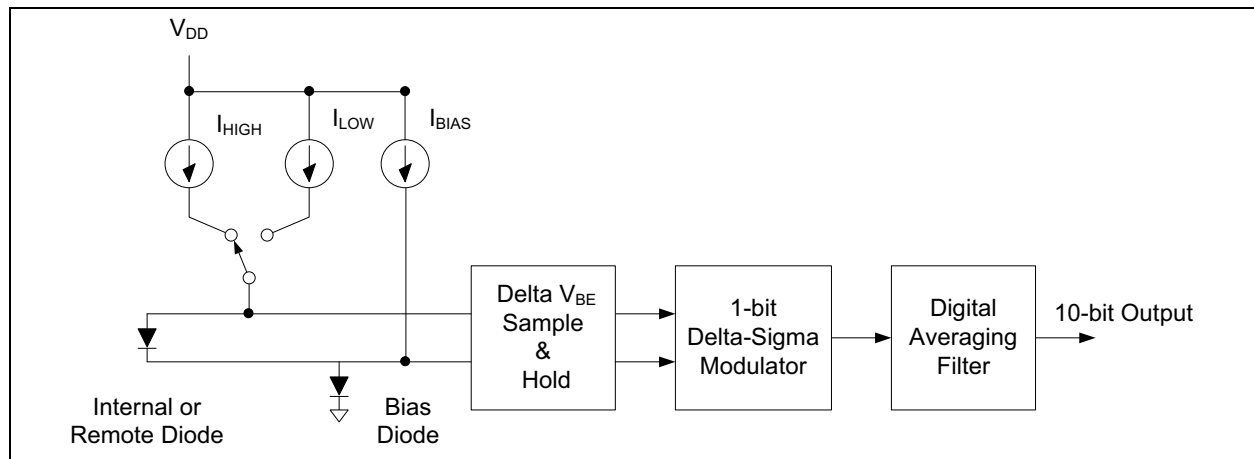

FIGURE 4-2: Detailed Block Diagram.
Figure 4-2 shows a detailed block diagram of the temperature measurement circuit. The EMC1001 incorporates switched capacitor technology that integrates the temperature diode ΔV_{BE} from different bias currents. The negative terminal (DN) for the temperature diode is internally biased with a forward diode voltage referenced to ground.